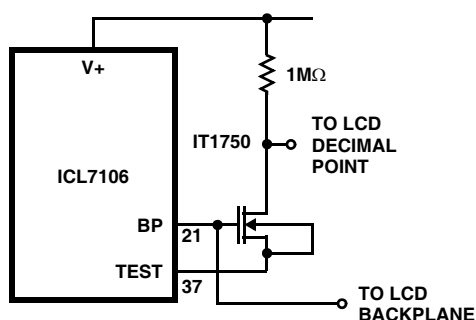
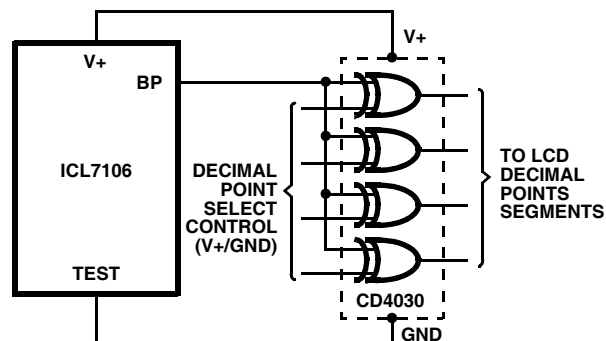

FIGURE 4. SIMPLE INVERTER FOR FIXED DECIMAL POINT
FIGURE 5. EXCLUSIVE 'OR' GATE FOR DECIMAL POINT DRIVE
Liquid crystal displays are generally driven by applying a symmetrical square wave to the Back Plane (BP). To turn on a segment, a waveform 180° out of phase with BP (but of equal amplitude) is applied to that segment. Note that excessive DC voltages (>50mV) will permanently damage the display if applied for more than a few minutes. The ICL7106 generates the segment drive waveform internally, but the user should generate the decimal point front plane drive by inverting the BP (pin 21) output (Note 1). In applications where the decimal point remains fixed, a simple MOS inverter can be used (Figure 4). For instruments where the decimal point must be shifted, a quad exclusive OR gate is recommended (Figure 5). Note that in both instances, TEST (pin 37, TP1) is used as V- for the inverters. This pin is capable of sinking about 1mA, and is approximately 5V below V+. The BP output (pin 21) oscillates between V+ and TEST.